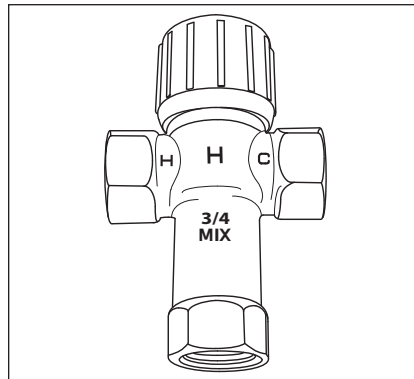

Figure 25 - Adjust Thermostatic Mixing Valves at each point-of-use to 120°F/49°C or lower.
**▲ WARNING! Higher temperatures increase the risk of scalding, but even at 120°F/49°C, hot water can scald (see page 4 and Figure 25).**